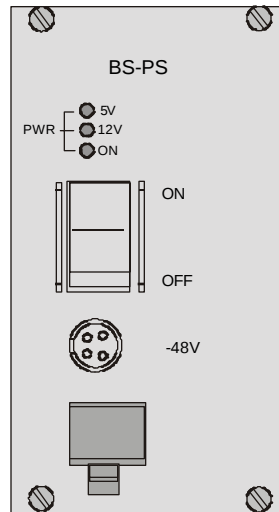

Figure 2-7. BS-PS Front Panel
The BS-PS provides power to all the modules installed in the BS-SH rack. The BS-PS front panel is shown in Figure 2-7.
4. Connect the DC power cord to the -48 VDC In jack (marked -48V) located on the front panel of the BS-PS power supply shown in Figure 2-7. If a redundant power supply module is installed, connect a power cable to it as well.
2. Connect the AU -PS DC power cord to the DC In jack (marked DC-12V) located on the rear panel of the Indoor unit (shown in Figure 2-7).